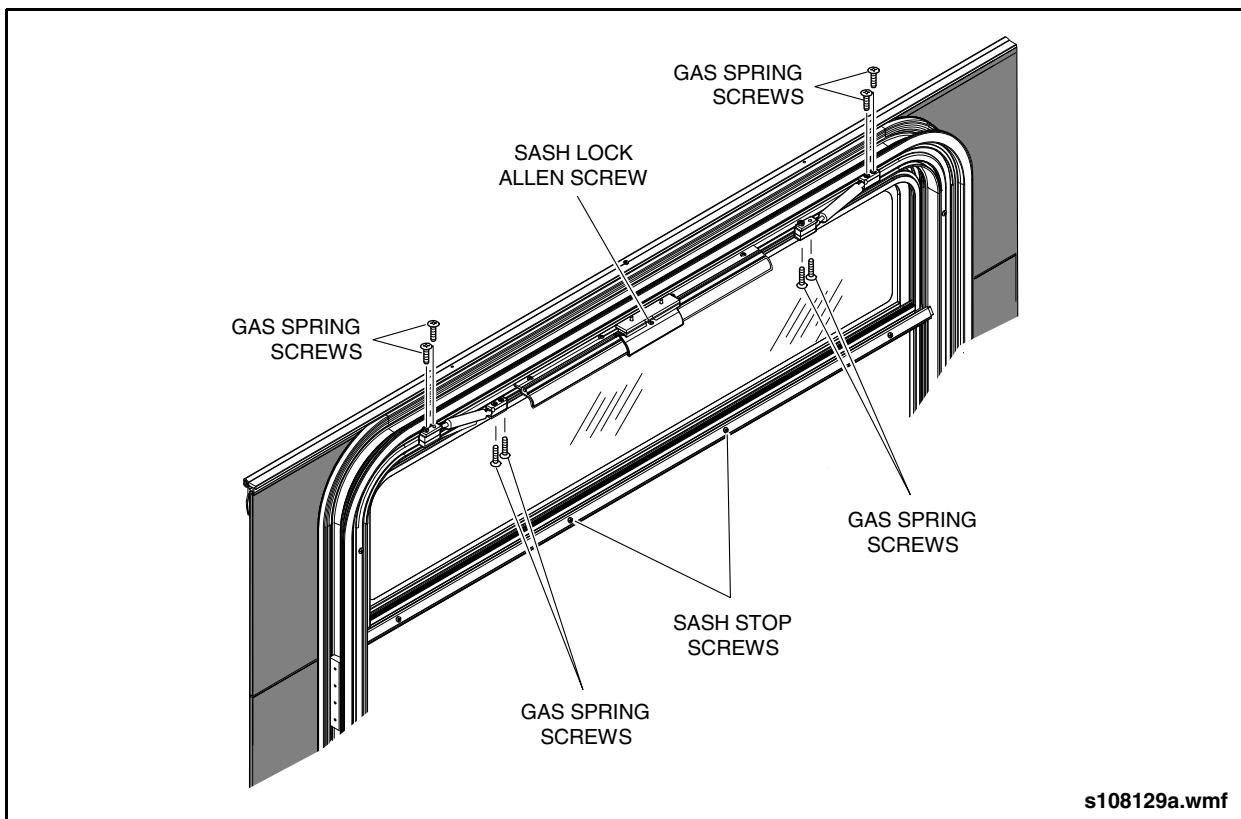

Fig. 14-11: Window Sash Removal
2. Loosen the (4) 8 - 32 x 1" long flat head screws enough to remove the gas springs from the retainers. See "Fig. 14-11: Window Sash Removal" on page 14.
3. Close the sash again, and remove the (4) 8 - 32 x 3/8" pan head screws from the sash stop.